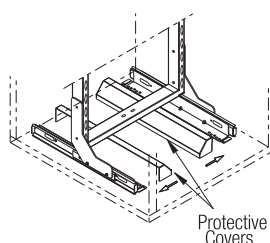

Fig. 7
7. Slide & cover the Ball Cage Slides with Protective Covers as shown in Fig. 7.